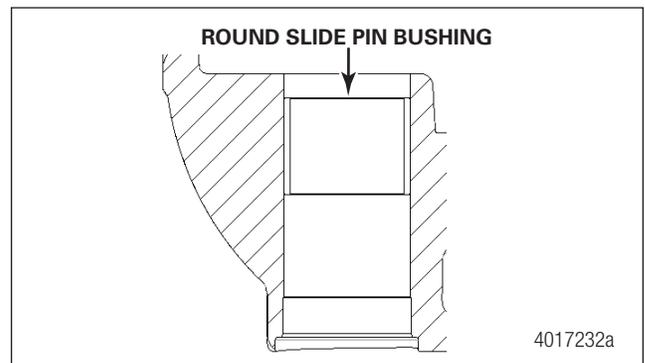

Fig. 8.9 Round Slide Pin Bushing
STEP 2 - Insert the bushing into the housing bore from the slide pin boot retainer side of the bore. Figure 8.9.